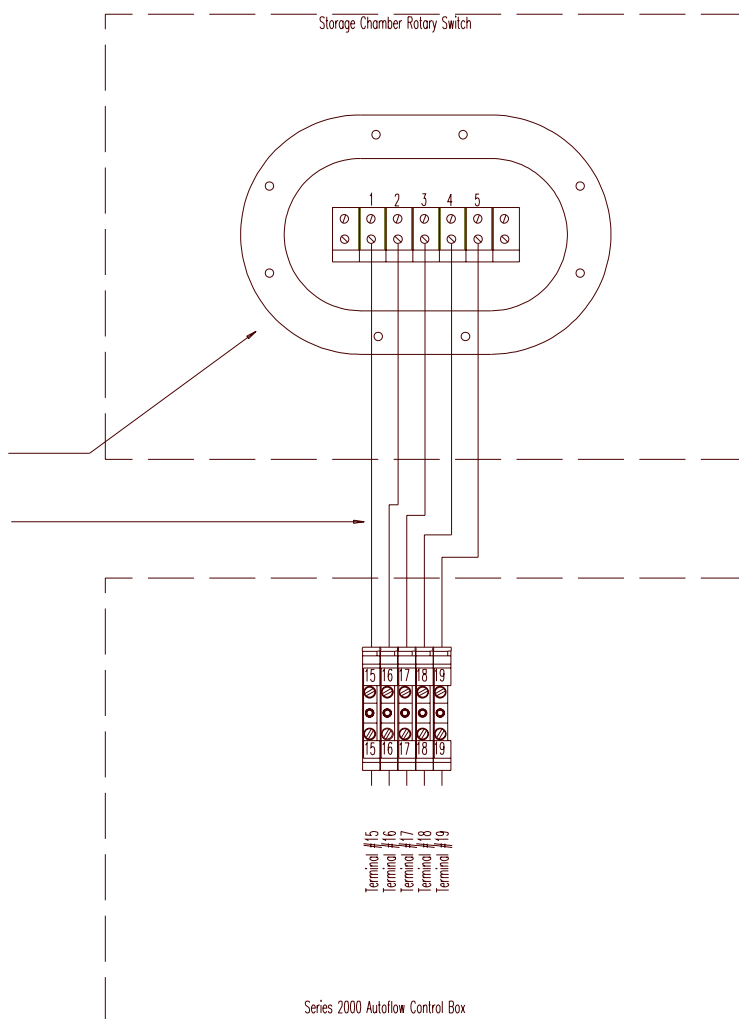

Figure 22
- 1) Run five (5) control wires from the Autoflow Control Box to the Storage Chamber Rotary Switch.
- 2) Connect the wires as shown in figure 22.